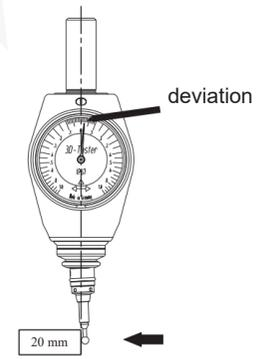

Fig. 7
---Read the deviation between the pointer and "0" scale of 3D tester (Fig. 7).